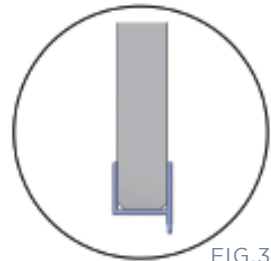

FIG.32
- If required, slide drip seal onto bottom of door and trim fin (FIG 32). Seal should just miss top of base when door is shut. If gap between door and floor is too large, seal can be lowered up to 6mm.